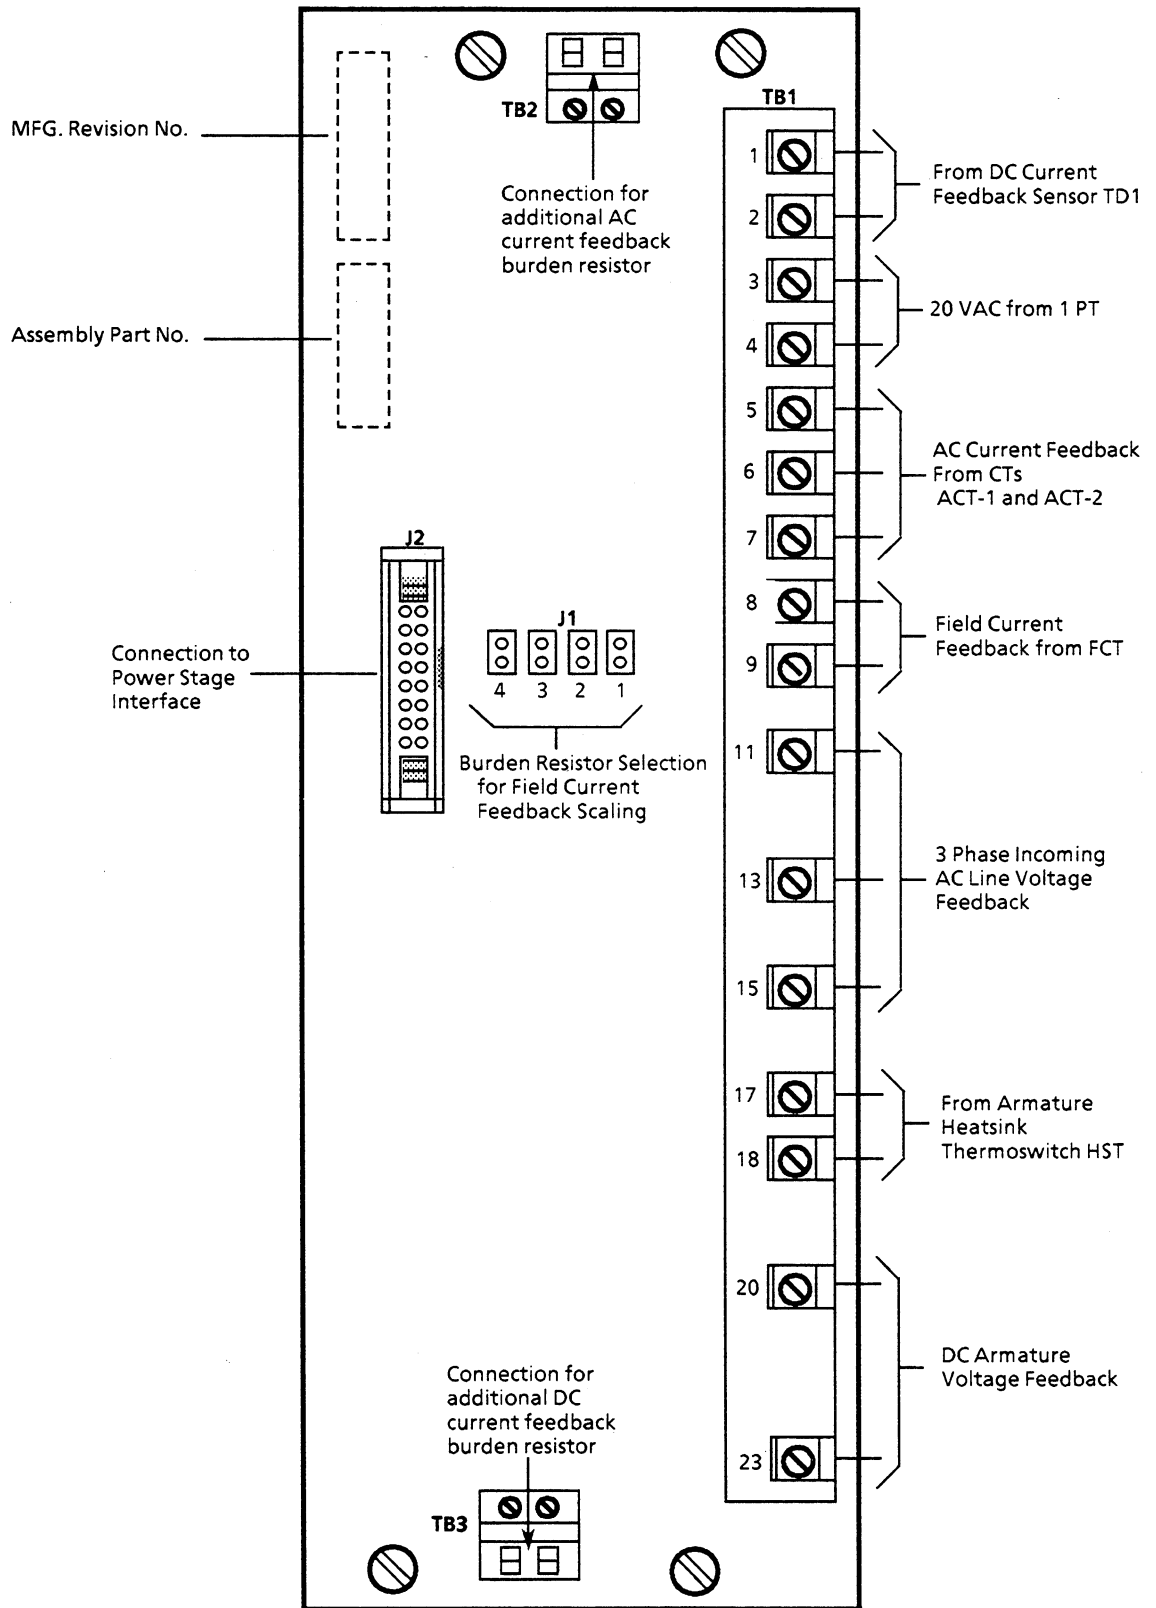

Figure 1. Feedback Board Overview
- Description** The primary function of the Feedback Board is to provide scaling and transfer of feedback signals coming from power bridge devices being sent to the Power Stage Interface and eventually to the Main Control Board. Figure 1 illustrates the major hardware points on the board.
3. Disconnect the ribbon cable from the Power Stage Interface at J1 (Refer to Fig. 1).
4. Disconnect all wires leading to the screw terminals on TB1 (Refer to Fig. 1).